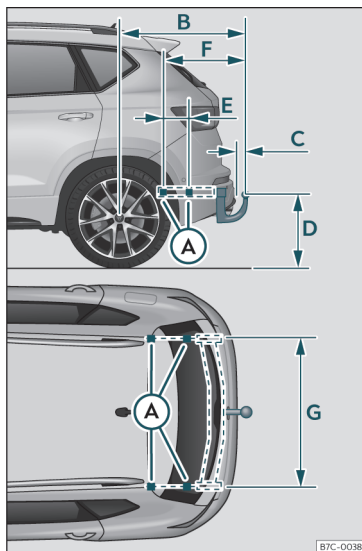

Fig. 196 Limits and attachment points for retrofitting a towing bracket.
The distance between the centre of the ball head and the road >>> **Fig. 196** (D) must never be less than indicated. This also applies when the vehicle is fully loaded, including the technically permissible maximum vertical load on the coupling device.
Distance specifications >>> Fig. 196 :